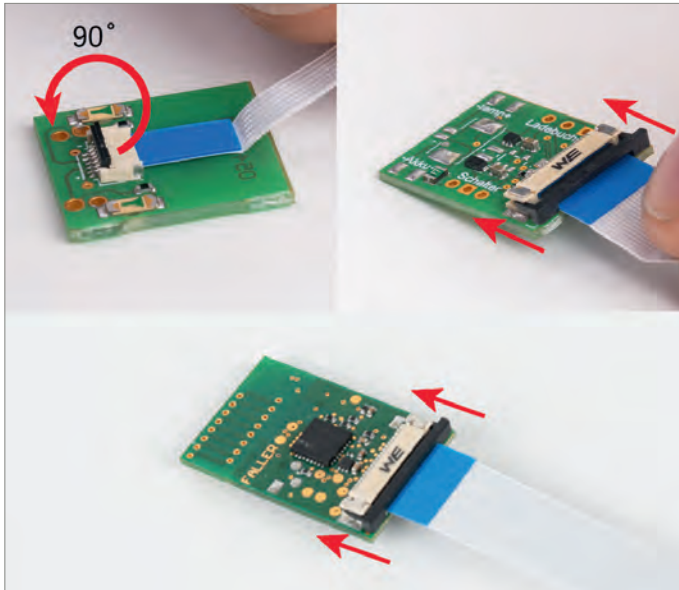

Abb. 46: Connect flat ribbon cables
- ▶ Connect the ribbon cable from the ultrasonic board to the digital board (see Figure 46). Open the black terminal strip on the connector. Make sure the contact surface of the ribbon cable faces the board and the colored side of the cable faces you. Use tweezers to insert the cable into the connector and close it by pushing the black retaining clip back into place.